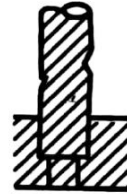

Fig. 2.23 : Step Drilling
13. Step Drilling : When a hole of two or more diameters is cut by one drill, the operation is called step drilling. For this, multiple diameter drills are used as shown in fig. 2.23.